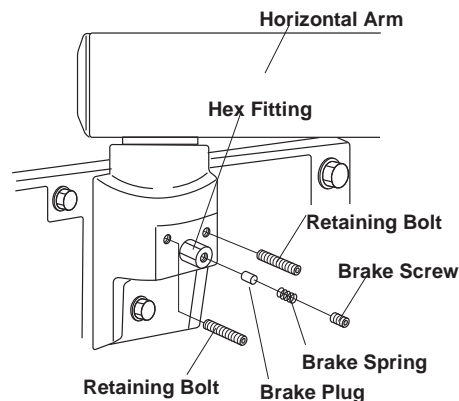

Fig.3-6 Horizontal Arm
2. Insert two retaining bolts into the upper threaded holes of the arm mounting bracket and tighten securely with a Allen wrench. (Fig.3-6)
3. Insert brake plug, brake spring and brake screw (M6 x 6 mm) into the threaded hole of the hex fitting located on the arm mounting bracket. **DO NOT FULLY TIGHTEN.** (Fig.3-6)